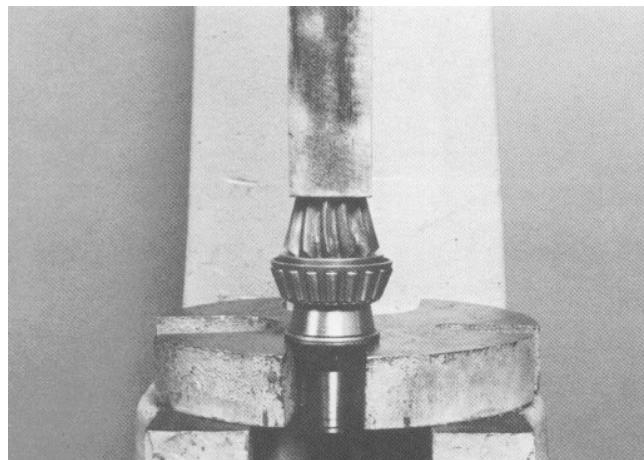

Figure 35
2. Press the inner pinion bearing onto the pinion drive gear. Support the bearing on the inner cup of the bearing ONLY WHEN INSTALLING (Fig. 35).